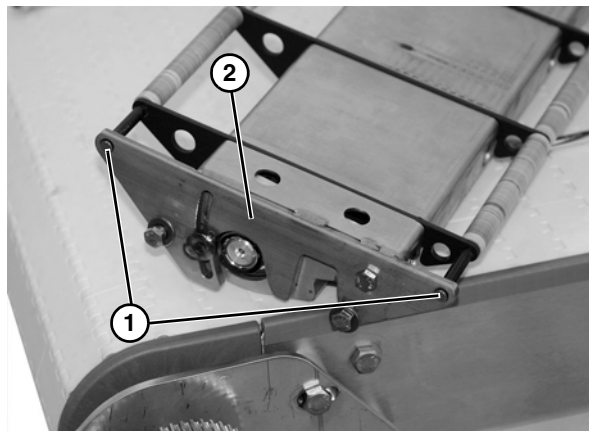

Figure 34
8. Install rods (**Figure 34, item 1**) so they remain flush with power transfer bracket surface (**Figure 34, item 2**).